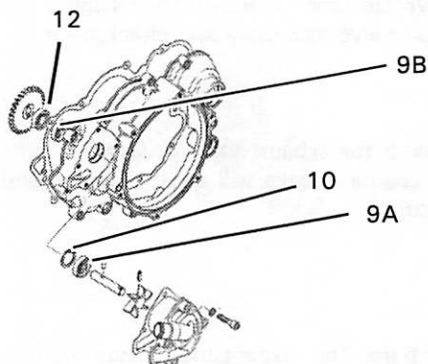

Figure 81
Refer to Figure 81 for this procedure.
- Remove the outer oil seal (9A, Figure 81).
- Remove the snap ring (10, Figure 81).
- Press out the inner oil seal (9B, Figure 81) and bearing (12, Figure 81) together from the clutch cover.
*The inner and outer oil seals (9A and 9B, Figure 81) are identical. Install both oil seals with their open side facing out (away from engine). Be careful not to damage the oil seal lips during installation.*
- Press in the inner oil seal (9B, Figure 81) until it bottoms out against the snap ring.
- Press a new bearing (12, Figure 81) into the clutch cover until its outer surface is flush with its mounting bore outer surface.
- Press in the outer oil seal (9A, Figure 81) until it bottoms out against the snap ring.